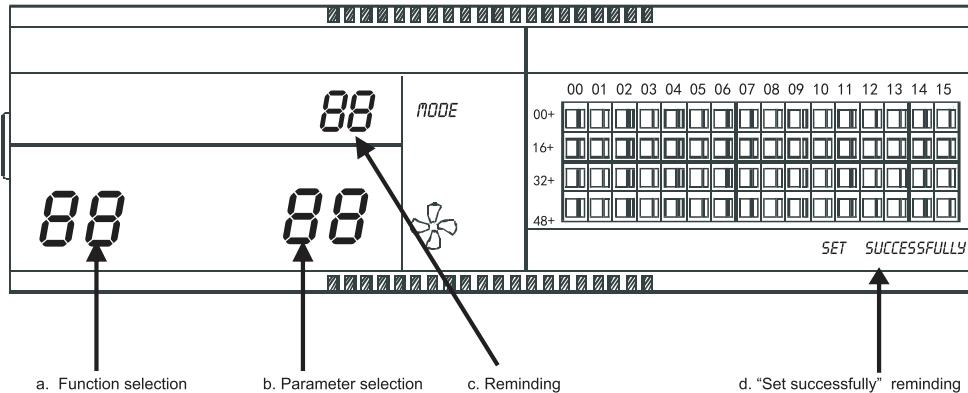

Fig 2.9 Filter net in addition to the dust function involves show a contents
① Dial the dial code 3 to “ON”, select the “Has optional function” referring to table 2.1 to , and then power on the centralized controller, in 1 minute press “” key and hold on then press “” key, enter to optional function setting. Dual eight represented function selection (Fig.2.9 a) will be flashed with 1Hz frequency (default display 00), display the optional function code (see table 2.2). Press “” and “” keys to select function, and then press “” key to enter parameter selection.
② After enter parameter selection, dual eight represented parameter selection will be lighted on, dual eight represented function selection (Fig.2.9 b) will be flashed with 1Hz frequency, display optional parameter code. Through pressing “” and “” keys to select the detailed parameter.
③ Press “” to confirm parameter selection(details parameter codes' corresponding time refer to table 2.3).
④ After setting successfully, Dual eight represented function selection and dual eight represented function selection will be lighted on, the screen will display “Setting successfully” (Fig. 2.9 d). After 3 seconds will auto exit optional function setting. The screen will back to normal display.